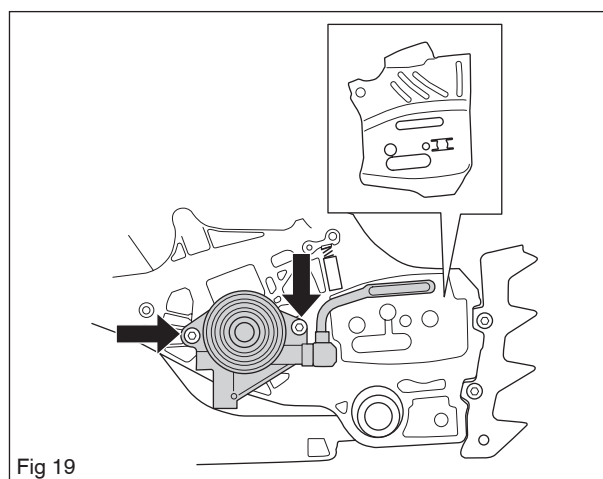

Fig 19
8. Unscrew the chain guide plate. See figure 19.
Lower the oil filter in place and replace the oil pump as outlined in figure 19 and tighten the screws.